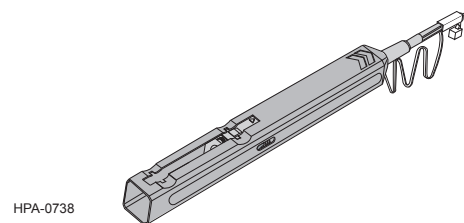

Figure 2
4.1 Cleaning the LC adapters with an LC port cleaner before each mating is recommended (Figure 2).